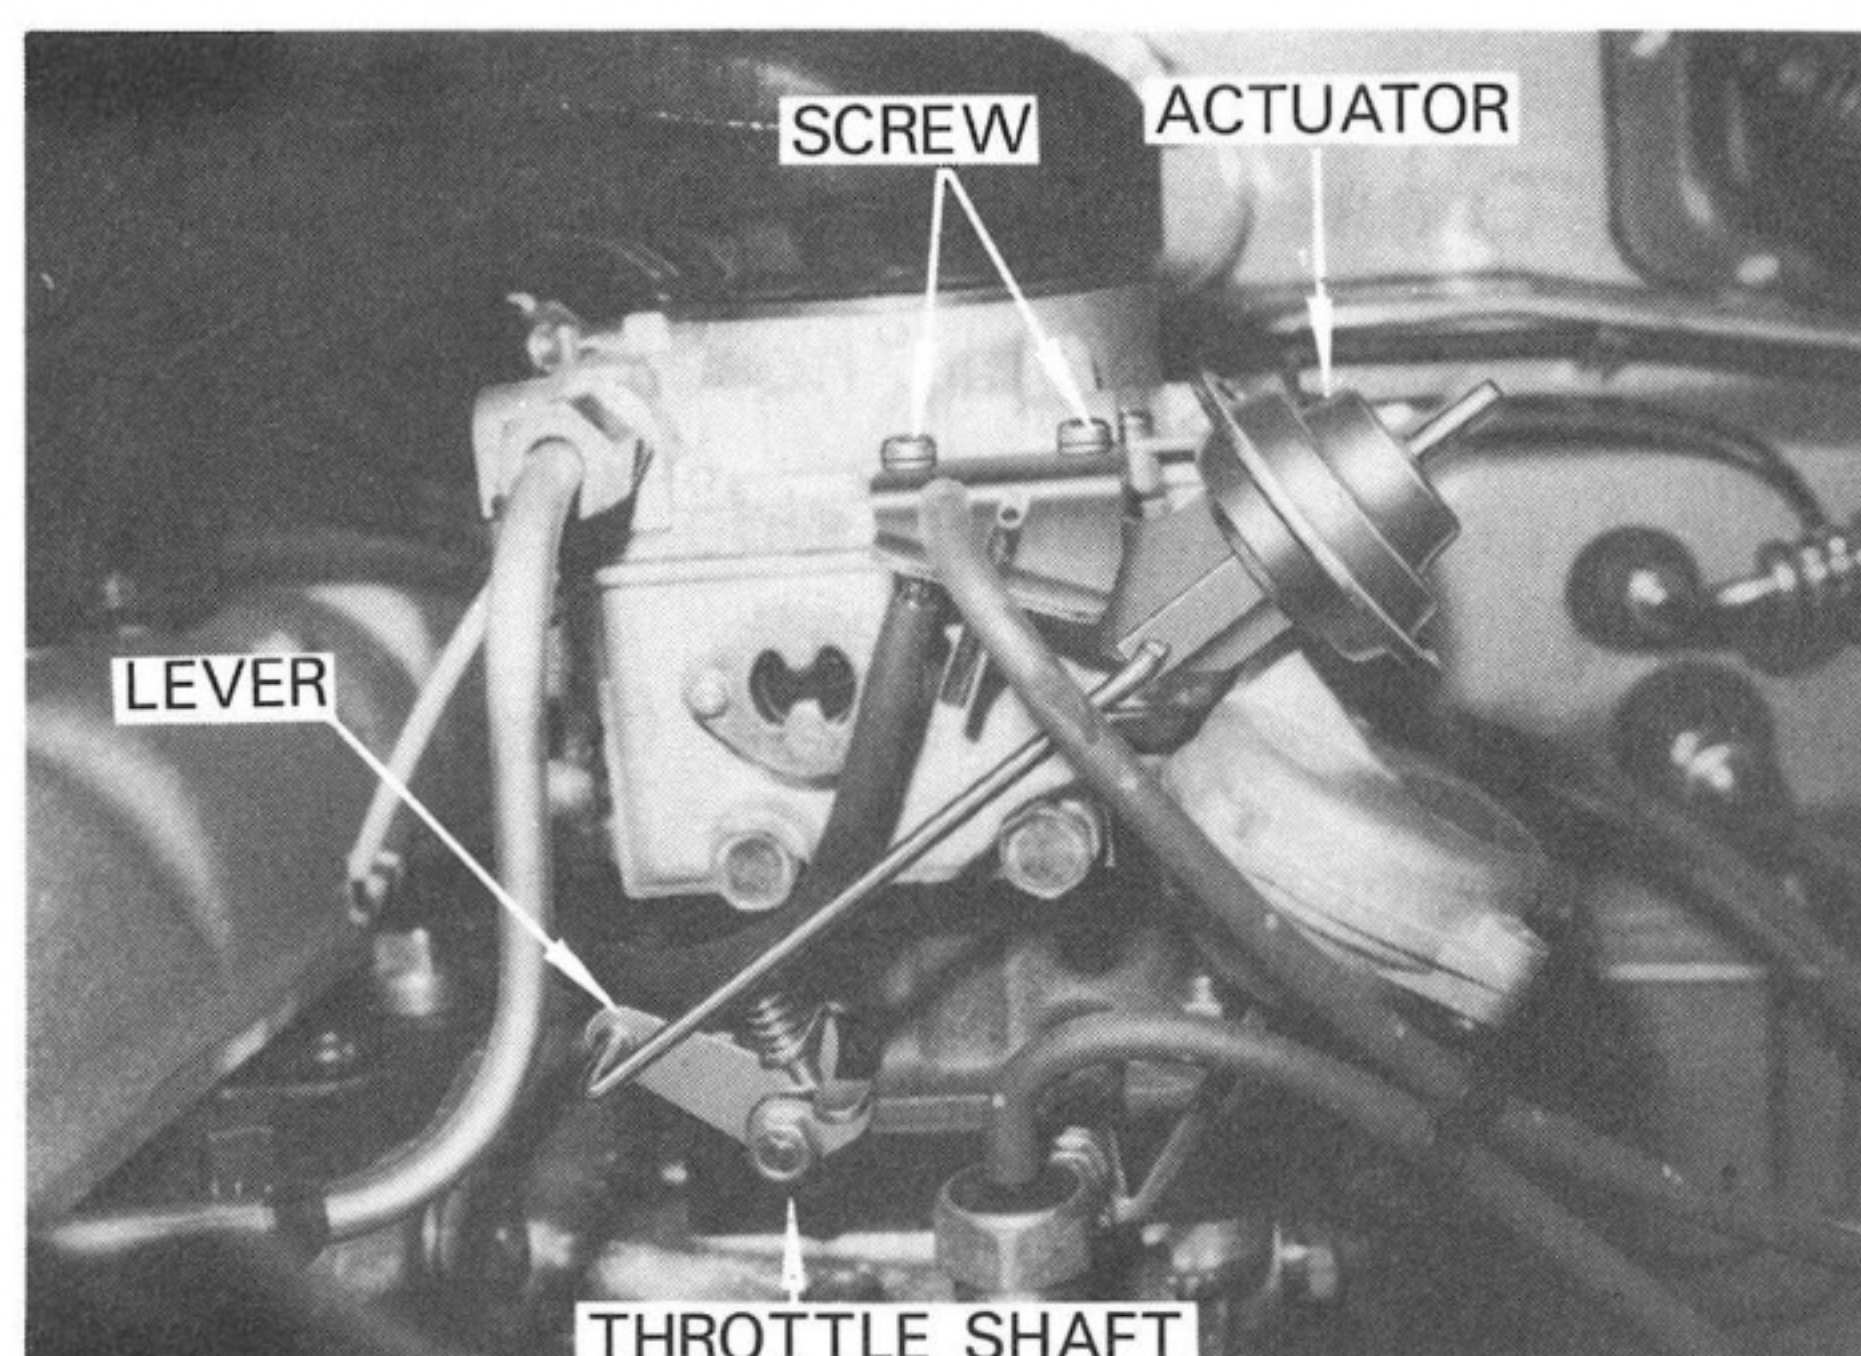

Fig. 35
See Fig. 35.
- C) Fix the actuator on the flange of caburator together with vacuum hose joint bracket using two screws. See Fig. 35.